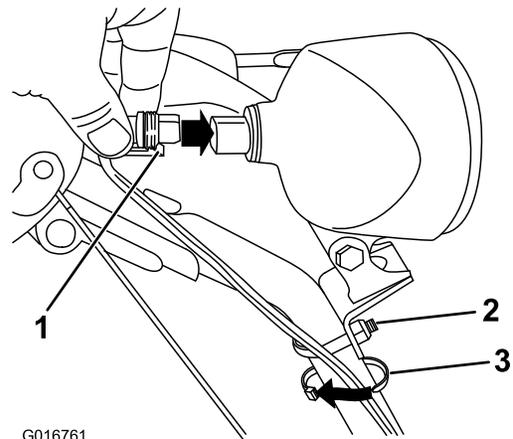

Figure 18
1. Insert the wire connector on the loose end of the wire straight into the back of the headlight until it is securely in place (Figure 18).
**Note:** Ensure that the plastic clip on the wire connector is on the bottom (Figure 18).
2. Secure a cable tie (from the loose parts bag) around the wire and the handle about 2.5 cm (1 inch) below the U-bolt (Figure 18).